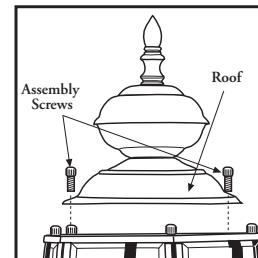

Figure 1
- For two screw and multiple screw assembly roofs, remove assembly screws on roof (or underneath roof) and insert bulb(s). Reattach roof. (see figure 1 and 2).